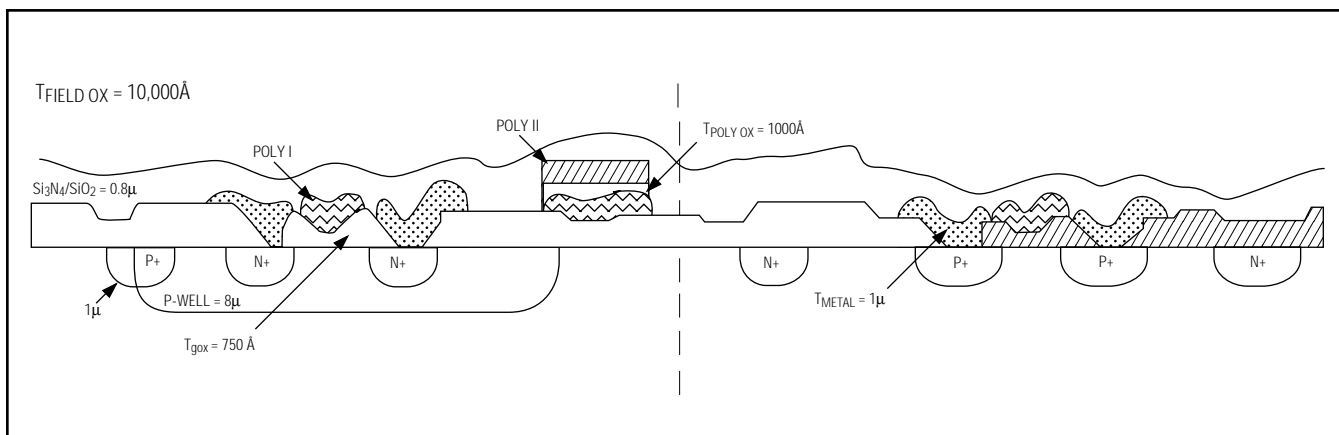

FIGURE 8. SG5 PROCESS
### (5) SG5 (Refer to Figure 8.)